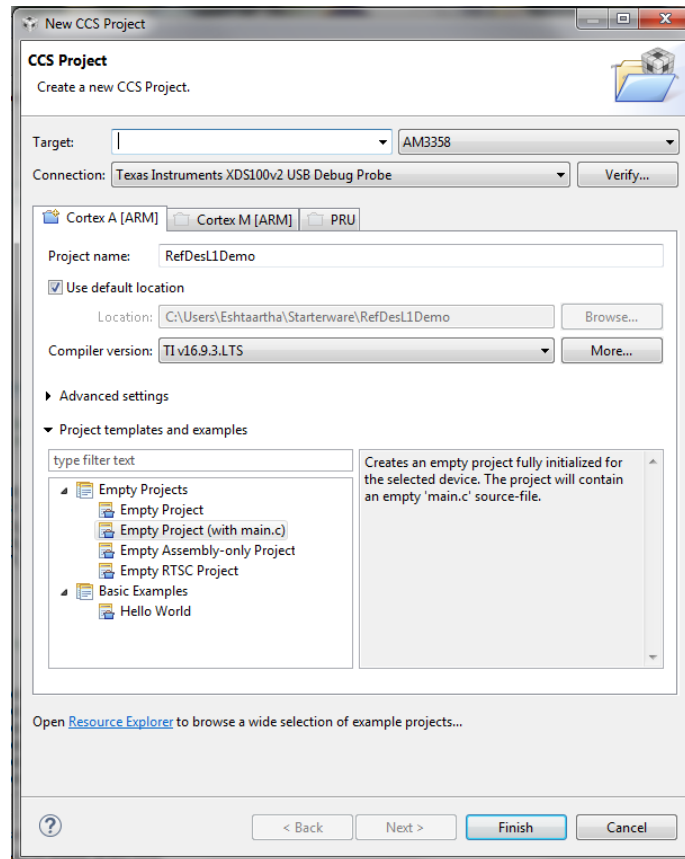

Figure 70 Demo App 1 project settings
- Name the project as **RefDesL1Demo1**. Configure the project as shown in Figure 70 and hit **Finish**.